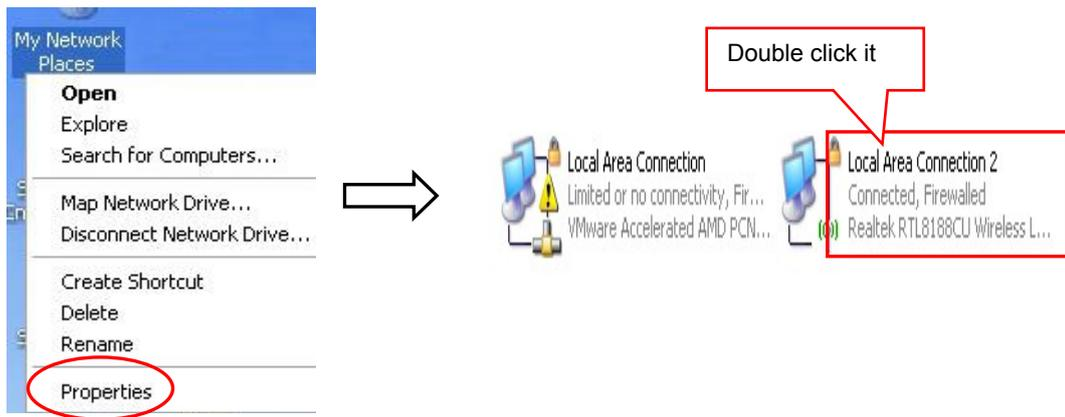

Figure 8
- (1) Get the security mode and encrypt type according to the corresponding network information given by the network administrator
- (2) Find them by entering the router of hotspot with the administrator's account.
- (3) Find them through Windows operating system and the steps are shown below (Take WIN XP as an example):
- ① Right click “My Network Places”, and click “Properties”, then double click “Local Area Connection 2” (as shown in Figure 8).